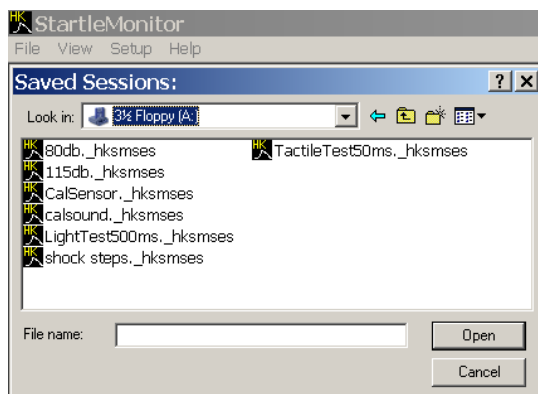

Figure 68 Saved Sessions Screen
1. Select the **File** pull-down menu then click on **Open**. The **Saved Sessions:** screen will appear similar to the one shown in Figure 68.